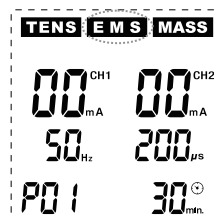

Fig. 6
Press the key (E) in order to select the **EMS mode**. The **EMS mode** is activated and information, as shown in **Fig. 6**, appears on the display: The device is now run in programme 1 (**P01**) of the **EMS mode** (**EMS** flashes at the top in the middle of the display). In the **EMS mode**, there are a total of 20 programmes (11 pre-programmed programmes **P01** - **P11** as well as 9 individual programmes **U1** - **U9** whose parameters can be set by the users themselves (see programme tables, page 23). In the **EMS mode**, press the key (P/II) repeatedly in order to first call the programmes **P01** - **P11** one after the other and then the programmes **U1** - **U9**. After programme **U9**, the programme order starts from the beginning with **P01**, **P02** etc.